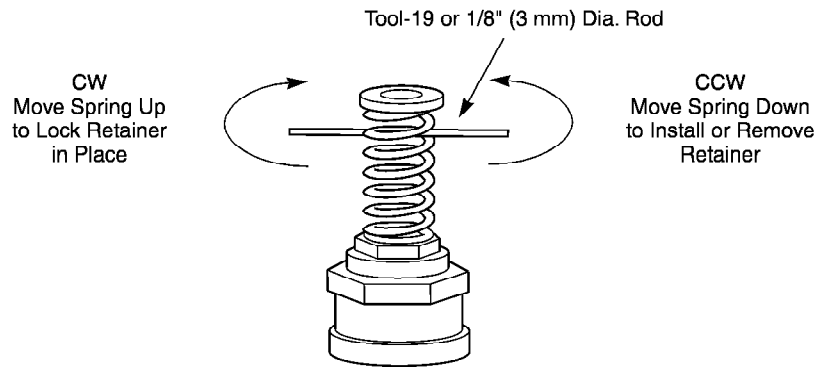

Figure-7 Installation of Linkage Spring.
7. Insert Tool-19 or a 1/8" (3 mm) diameter rod through the spring coil and the hole in the stem extension (Figure-7).